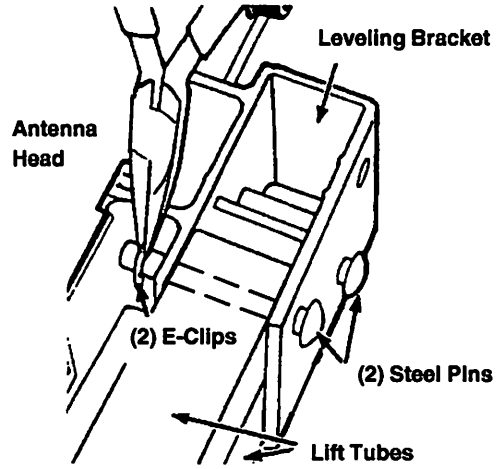

FIGURE 2
STEP 5: Attach antenna head to lift tubes with two (2) steel pins as shown in Figure 2. Align holes in leveling bracket on back of antenna head with holes in lift tubes, insert pins and secure in place with (2) E-clips. **Use pliers and get a firm grip on E-clips.** Fit clips into groove on pins and snap into place.